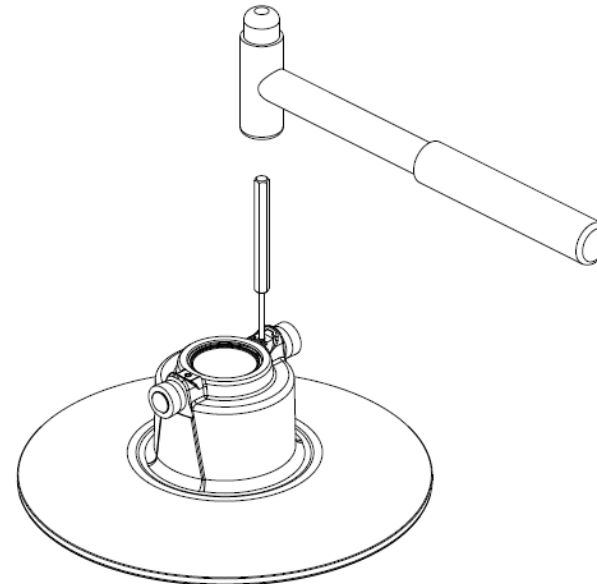

Figure 23
- Remove the 2 spring pins ④ using a 3mm punch and a hammer (figure 23).